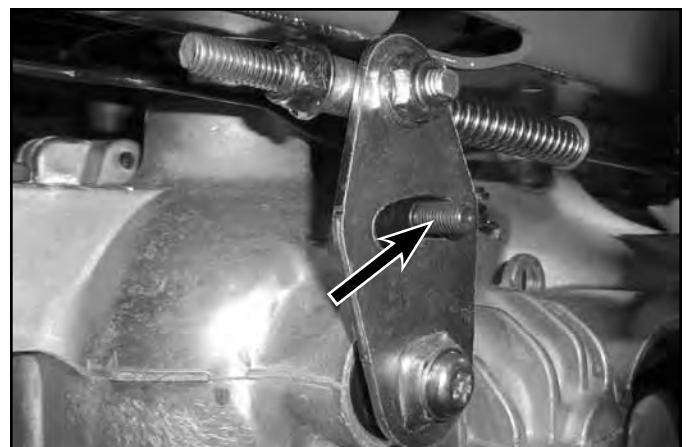

Fig. 048 PICT-1097
6. When in neutral, the stud should be in the center of the slot in the control arm (Fig. 048).